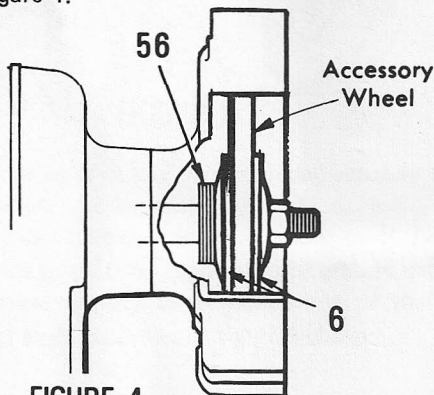

FIGURE 4
8. The illustration shows how the washer spacer (56) is assembled to your grinder when accessories are used. See figure 4.